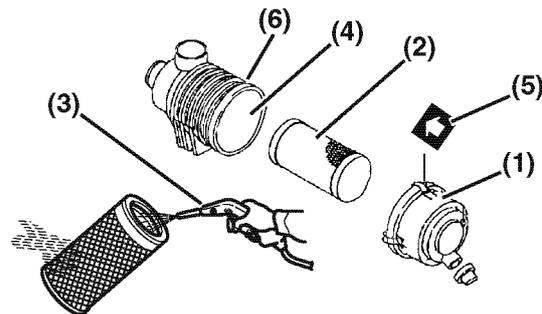

Figure 5-12
Note that a typical air cleaner is shown in **Figure 5-12** and **Figure 5-13** for illustrative purposes only.
- Unlatch and remove the air cleaner cover (**Figure 5-12, (1)**).
- Remove the element (**Figure 5-12, (2)**) (outer element if equipped with two elements).
3. Blow air (Figure 5-12, (3)) through the element from the inside out using 42 - 71 psi (0.29 - 0.49 MPa; 3.0 - 5.0 kgf/cm²) compressed air to remove the particulates. Use the lowest possible air pressure to remove the dust without damaging the element.
6. Install the element into the air cleaner case (Figure 5-12, (4)).
7. Install the air cleaner cover making sure you match the arrow (Figure 5-12, (5)) on the cover with the arrow on the case (Figure 5-12, (6)).
Replace the air cleaner element (**Figure 5-12, (2)**) every 500 hours even if it is not damaged or dirty.
When replacing the element, clean the inside of the air cleaner case (**Figure 5-12, (4)**).